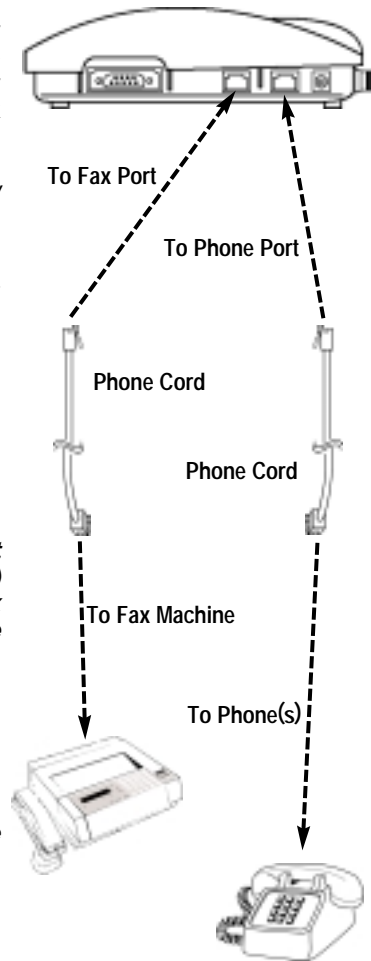

Figure 7: Dual Port
- 2) Connect the other end of the cord to the telephone port (*marked **PHONE***) on the side of your Phonecell SX4e - see *Figure 7*.